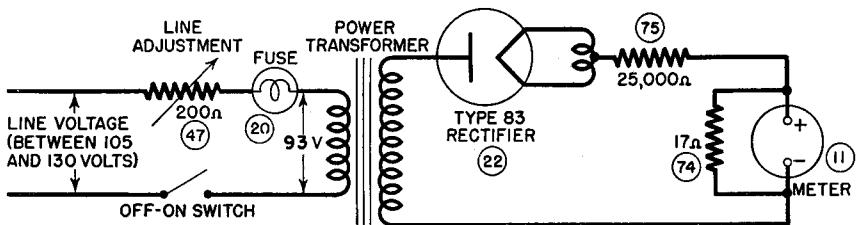

Figure 2. Tube Tester I-177, simplified line test circuit.
13. LINE TEST (fig. 2). Pushing the LINE TEST button connects the meter of the tube tester in series with the type 83 rectifier across a secondary winding of the power transformer, with suitable series and shunt resistors 75 and 74 in this calibrating circuit so the meter will receive a d-c voltage proportional to the a-c voltage across the transformer primary. Factory calibration is such that, when 200-ohm LINE ADJUSTMENT rheostat 47 in series with the power transformer primary is adjusted so the meter pointer is exactly at 1500 (near the center of the scale), the a-c input voltage of the transformer is exactly 93 volts, the value at which the instrument was designed to operate. A small automobile-type lamp 20 is included in the transformer primary circuit as the FUSE LAMP to protect the entire instrument from dangerous overloads. It will burn out during an overload. Setting the FIL. switch to the rated filament voltage value of a tube, followed by the setting of the LINE ADJUSTMENT